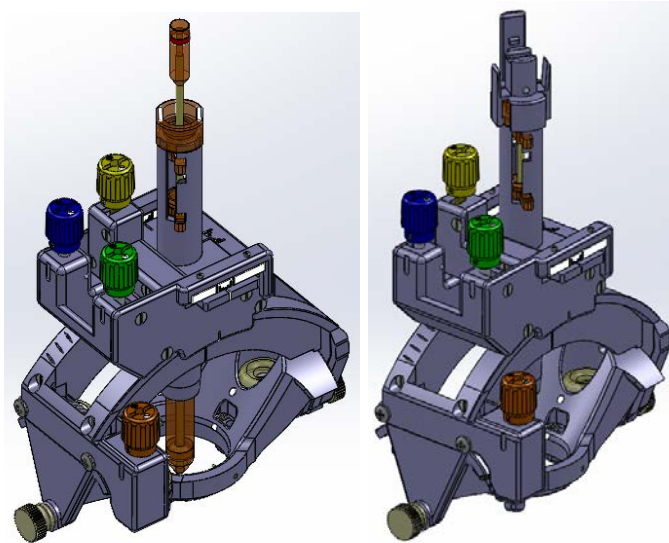

Figure 24: Assembly after Insertion.
- 3.2 Insert and snap lock the Dock in place. **See Figure 24.**